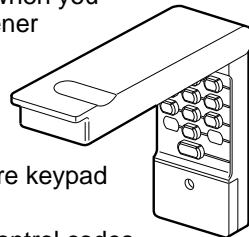

Figure 1
1. Lift the cover to access the keypad, Figure 1. Decide on a 4-digit code using numbers from 0 to 9. You can use a number more than once (for example, 4, 0, 4, 1).